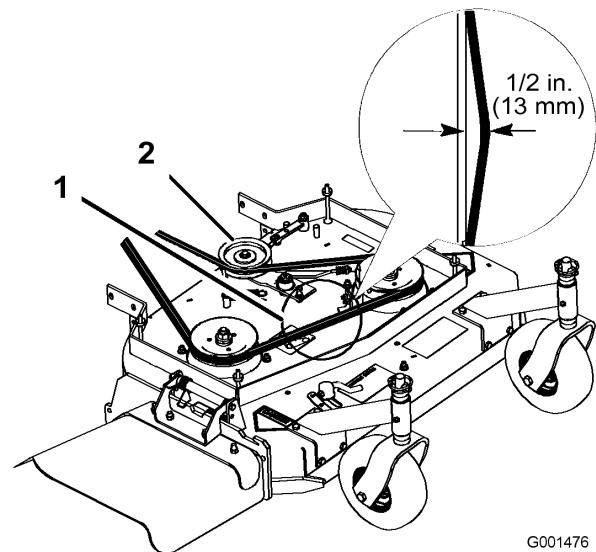

Figure 34
- Remove the idler pulley and the worn belt (Figure 34).
Note: The proper mower belt tension is 10-15 lbf. (44-67 N) with the belt deflected 1/2 inch (13 mm) halfway between the pulleys (Figure 34).